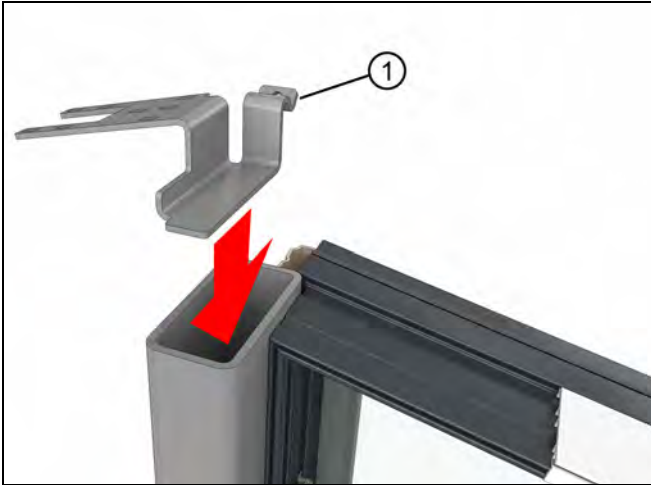
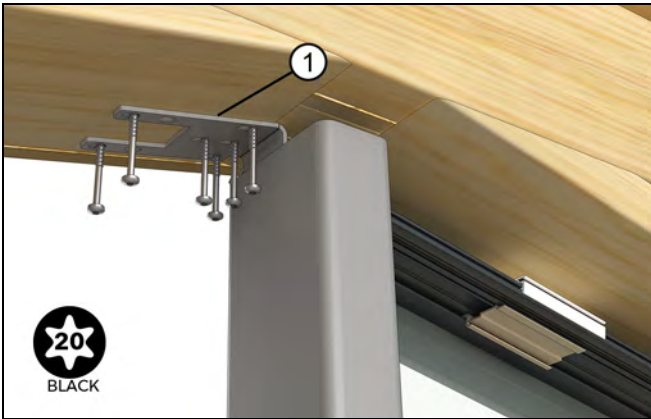

Figure 167
Figure 168
2. Tube Steel Mulls: will use handed brackets at the head jamb. At the sill, you will use the standard mull bracket unless you have a sloped sill in which case you will use a handed polygon bracket. See Figure 167 and Figure 168.